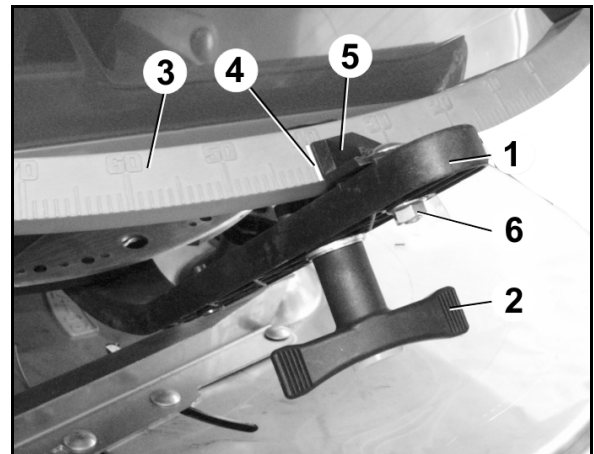

Fig. 80
2. Open the dosing slider with the setting lever (Fig. 80/1).
4. Swivel the setting lever on the scale (Fig. 80/3) until it stops at the pin.
5. Secure the setting lever with the rotary handle (Fig. 80/2).
6. Release the hexagon screw (Fig. 80/6). Align the pointer (Fig. 80/5) to "8" on the scale and secure with the hexagon screw. Read-off edge of the pointer is (Fig. 80/4).